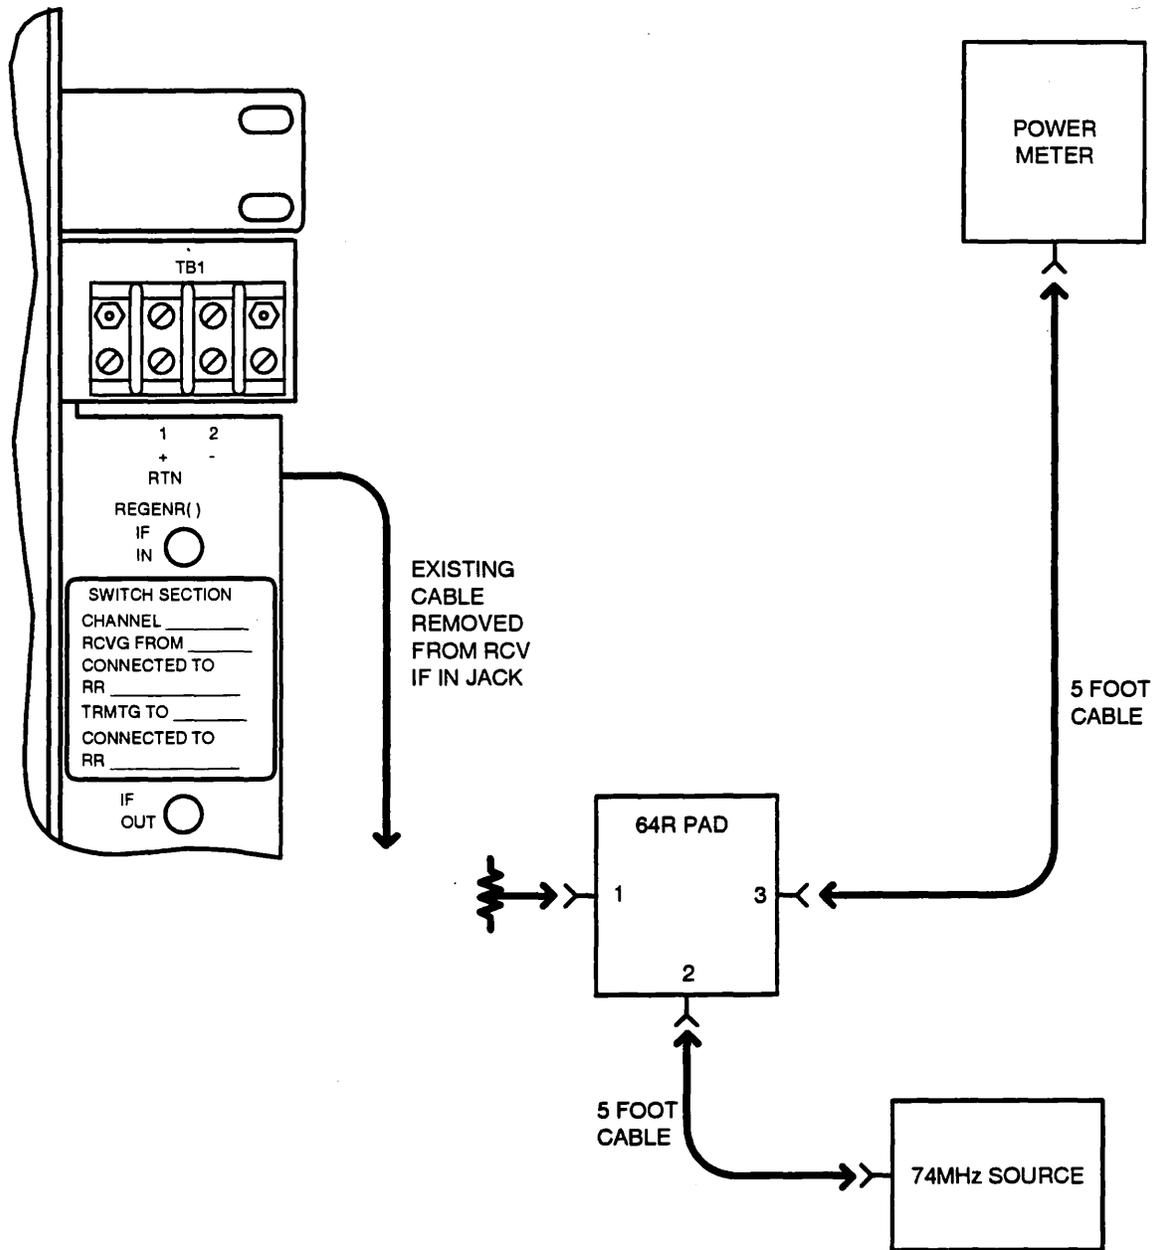

Figure 4—Interference Signal Level Measurement Test Connections
5. Make the test connections as shown in Figure 4. See **Note** in Step 2.